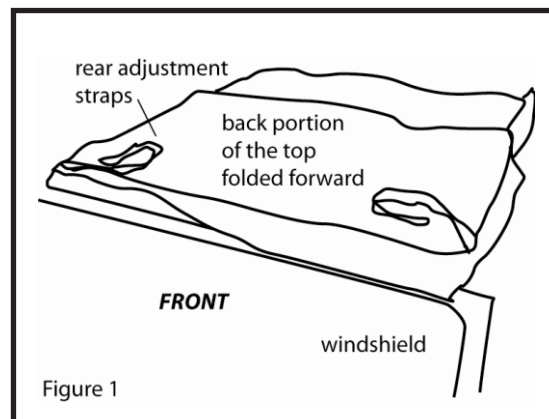

Figure 1
- Step 5.** Unfold your new Soft Top, set the windows aside for later use, taking care not to scratch windows. Place the top on the center of the roll bar and unfold. Spread the top out and taking care that the metal flat hooks at the end of the rear adjustment straps *do not damage paint, glass or cause injury*. See Figure 1.